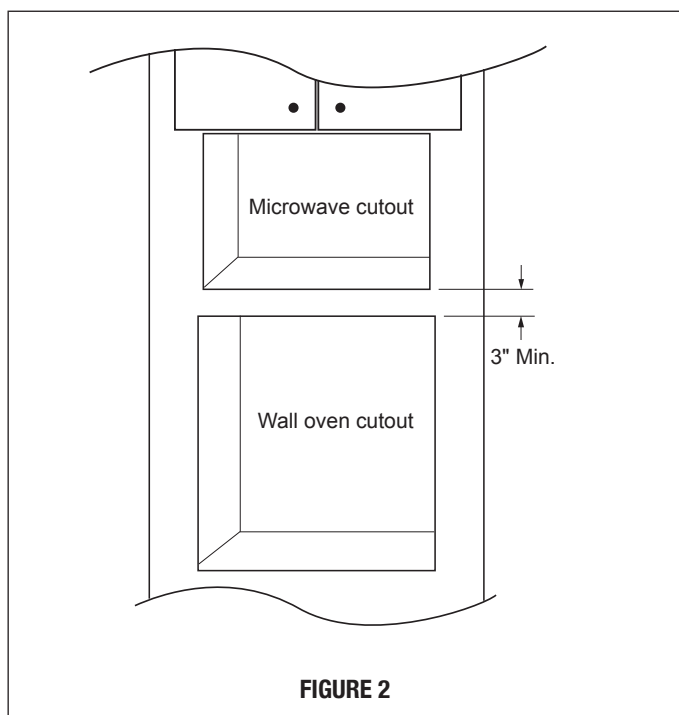

FIGURE 2
- Please allow minimum 3" wood gap between the microwave oven cutout and the appliance cutout below the microwave oven. See Figure 2.
- Please allow minimum 3" (76 mm) wood gap between the microwave oven cutout and the appliance cutout below the microwave oven. See Figure 2.